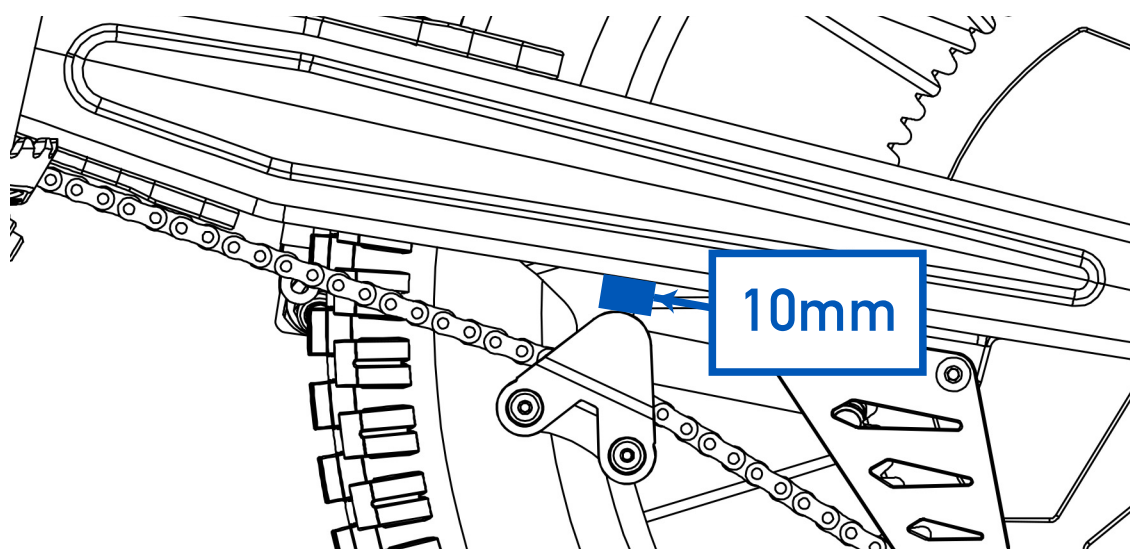

Fig. 12
- Check the chain slack, so that the chain has a play as indicated in this manual, 10 mm (Fig. 12). To check this, you must turn the wheel and check the slack several times, always measuring from the same point. The chain must not have too much play or too much stiffness.
4- Once half of the travel has been exceeded, the eccentric must be turned to adopt the position that guarantees an optimal adjustment up to the maximum travel limit, as shown in Fig. 12.